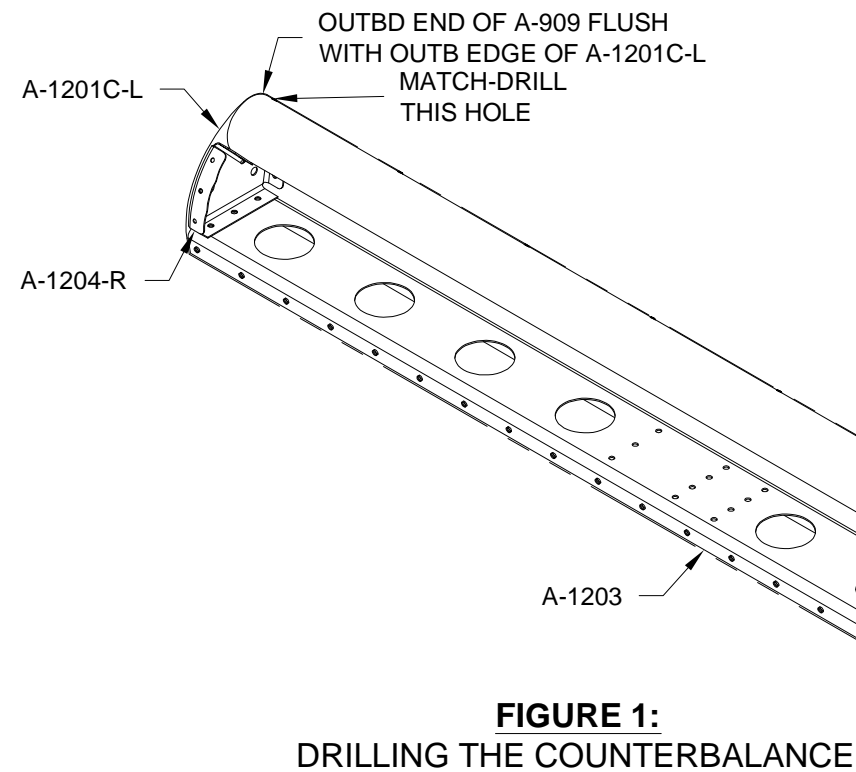

FIGURE 1:
Step 1: Cleco together the A-1203 Spar, A-1204-L & -R Outbd Nose Ribs, A-909 Aileron Counterbalance, and A-1201C-L Outbd Nose Skin as shown in Figure 1.
Step 2: Match-Drill #30 the most outboard hole and most inboard hole of the A-1201C-L Outbd Nose Skin into the A-909 Aileron Counterbalance. See "match-drill" call-outs in Figure 1.